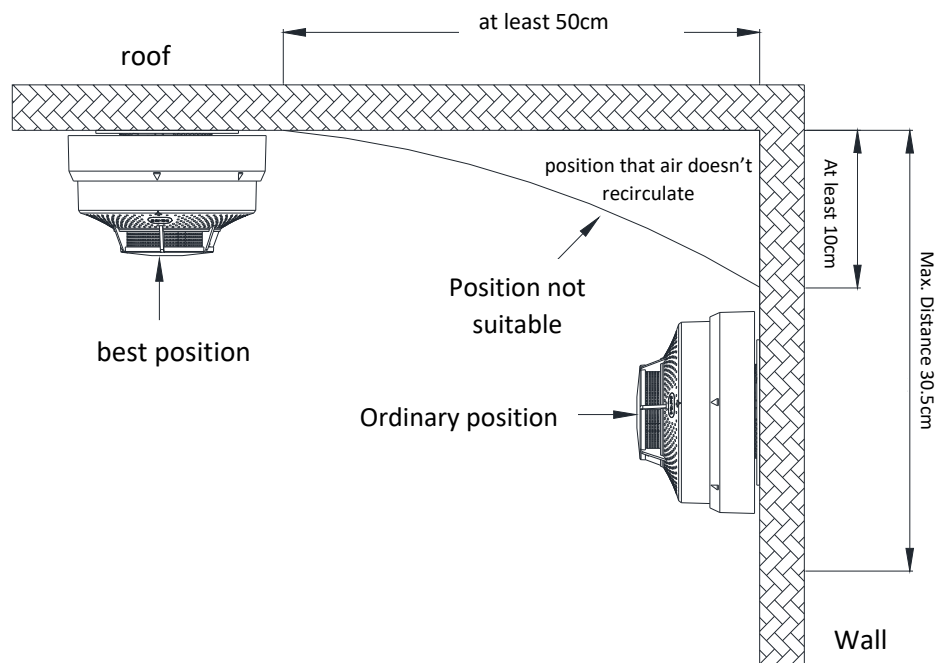

Fig. 3 Schematic diagram of the installation position of the alarm on the wall and roof of the flat-roofed room
- 1.1 Installed on the roof: When installed on the roof: the edge of the alarm should be no less than 50cm from any wall. (As shown in Figure 3)
- 1.2 Installed on the wall: the distance from the alarm to the top is not less than 10cm and not more than 30.5cm. (As shown in Figure 3)